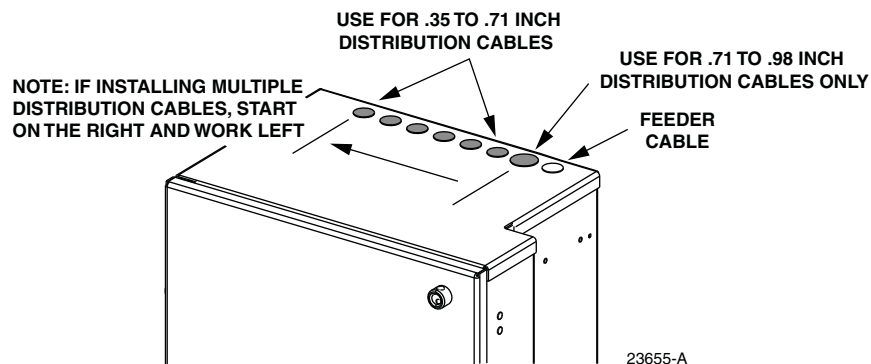

Figure 29. Cable Entry/Exit Holes
1. Locate the cable entry/exit holes (on top of the cabinet) that are specified for distribution cable installation as shown in Figure 29.